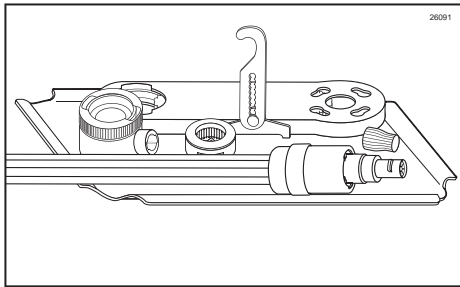

Figure 131
- Place the 9-Tube Assembly and Manifold cap on a sanitary tray to dry. (See Figure 131.)